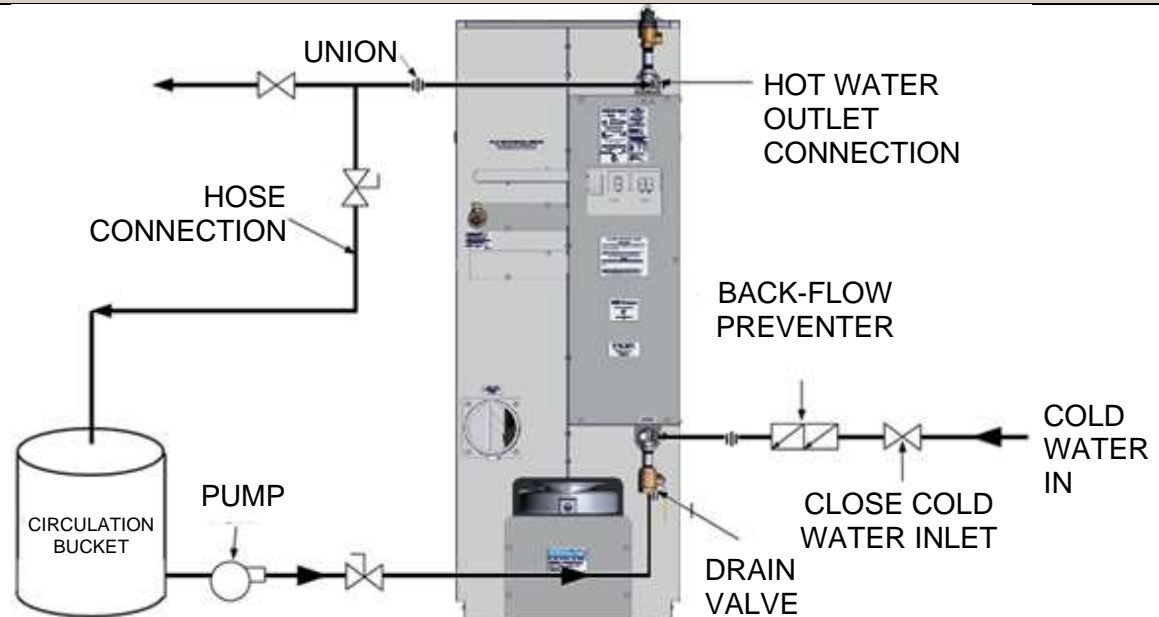

Figure 6-9. Sample Heat Exchanger Cleaning Set-Up
A sample pumping set-up diagram is shown in Figure 6-9. The heat exchanger is cleaned by pumping the cleaning solution from a large circulating bucket to the heat exchanger drain valve, through the heat exchanger and then out through the output connection of the heater. Set up the pumping system as follows:
4. Close the unit drain valve and connect a suitable size bucket and pump to the unit drain as shown in Figure 6-9.
5. Install a “T”, ball valve and hose connection in the outlet piping of the heater (Figure 6-9). Route the hose back to the top of the circulation bucket.